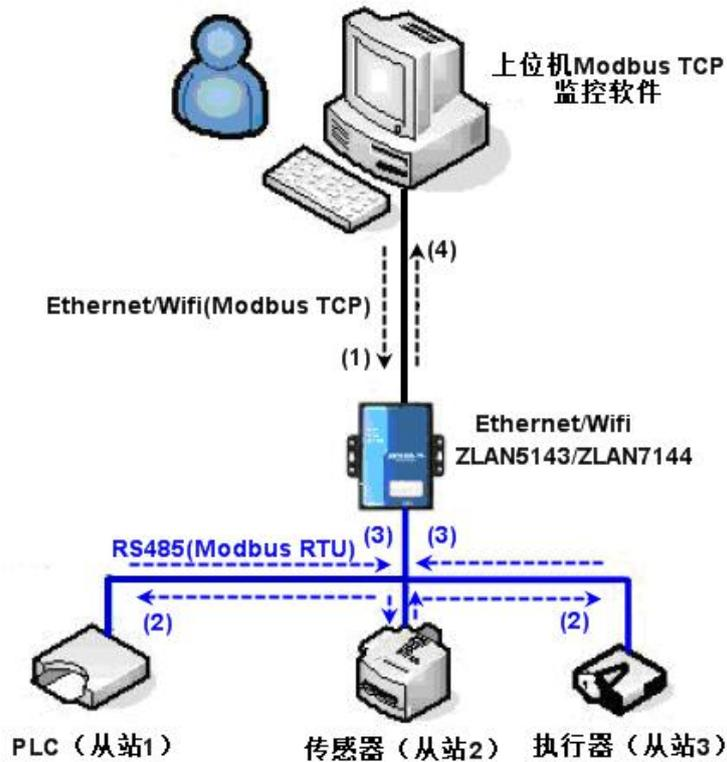

Figure 37 Storage Modbus Gateway mode of operation
As shown in Figure 37, the normal Modbus TCP data flow direction is (1), (2), (3) and (4). That is, the Modbus TCP command is first converted into the corresponding Modbus RTU command, and then the device answers the Modbus RTU command to the Modbus gateway, and then the Modbus gateway converts the Modbus TCP command again and sends it to the monitoring upper computer.